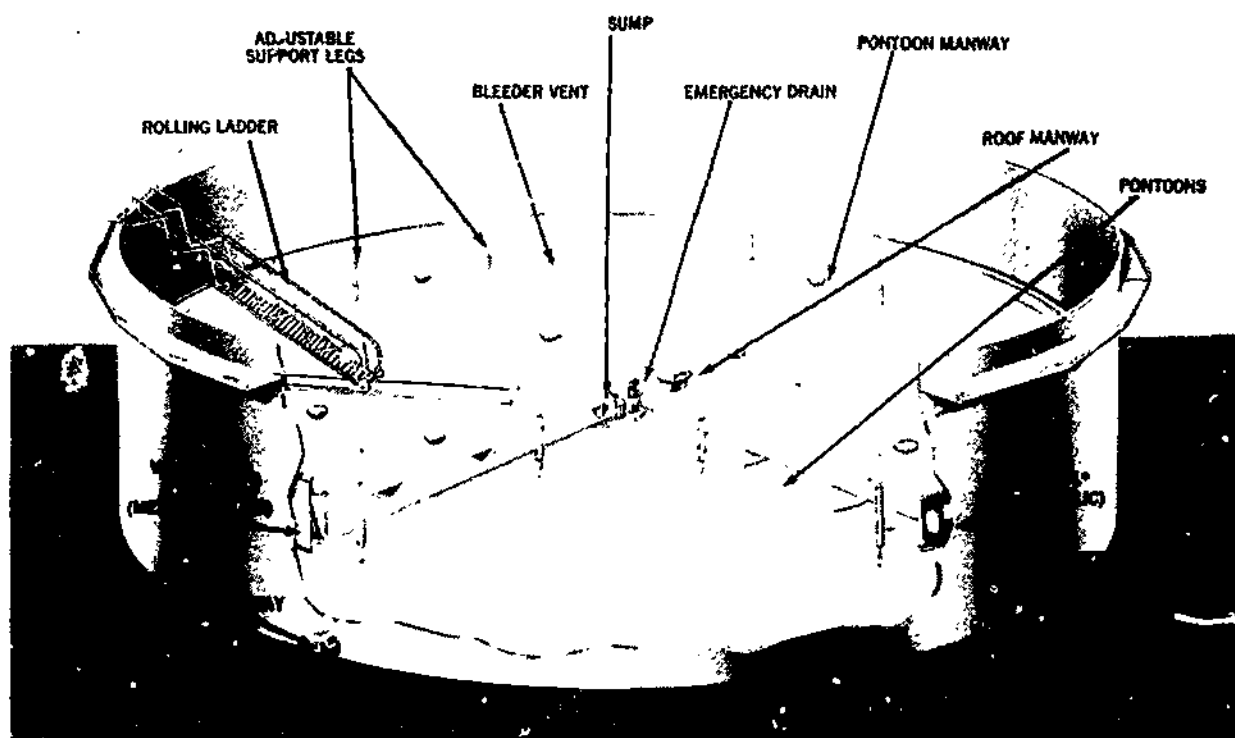

Figure 12-40. Double Deck Floater
**Double-Deck Floater** Double-deck floating roof tanks have proved successful in protecting volatile products against evaporation. The double deck is designed for buoyancy and strength, and insulates the product against rising temperatures; the roof floats directly on the stored product to prevent vapour loss (Figure 12-40). The upper deck of the roof is sloped to the centre sump for efficient drainage, and only deep snowfalls create a need for attention. As with the pontoon floater, the space between the roof and the shell of the tank is closed with a choice of seals.